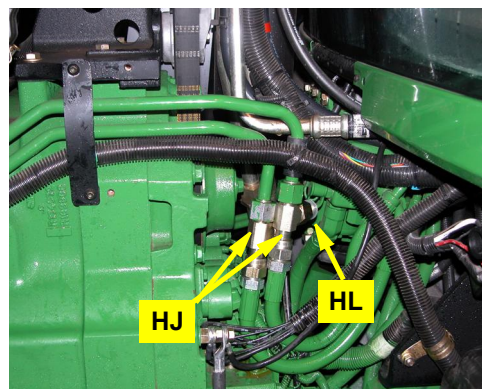

Figure 3c: Installed steering line run-tees with adapters
- c. Install run-tees **HJ** and adapters **HL** at the junction of the steel and rubber sections of the steering lines (Figure 3c).